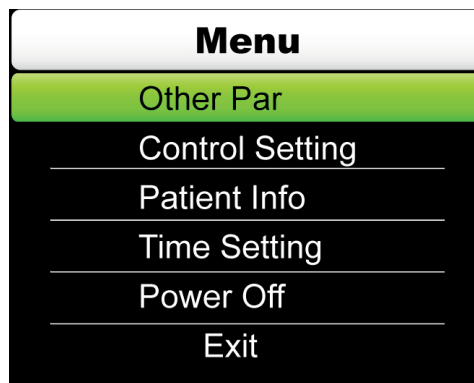
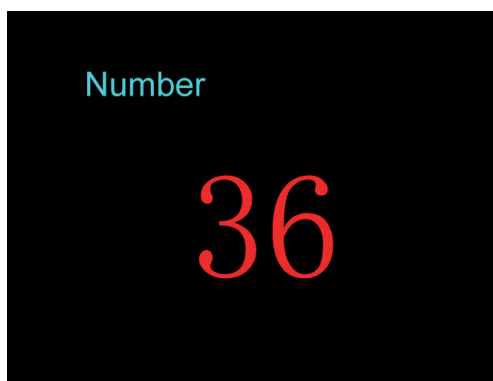
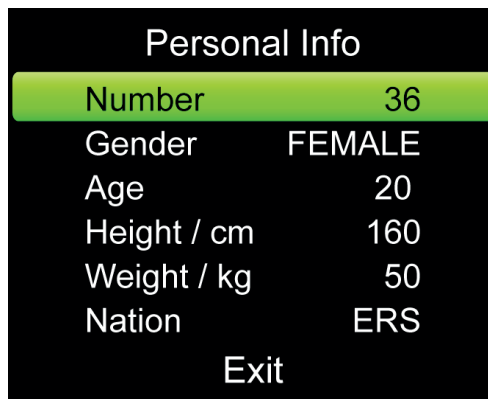

Fig.7
Fig.12
Fig.21
Flow rate-volume graph, volume-time graph: press "up", "down" key, two graphs will appear: Flow rate-volume and volume-time (as Fig.5-6). The three interfaces above are the main interface. In its interface press "menu" for main menu as Fig.7.
By browsing "menu" in its main menu as Fig.7, the user can search for other parameters and can operate control settings, patient information, real time configuration, shutdown, etc. The detail of methodology is as follows:
Select "Review Number" in its submenu. If the previous display status is "CLOSED" press the confirmation key to open the function (note: the review function can only be opened when the number of cases is more than one), the interface will jump to the Number interface as shown in Fig.12. In this interface use the "up" or "down" key to select the case number, press the confirmation key to review the selected case information. If the previous display is "OPEN" press the confirmation key to jump to the previous status (meaning: If the measurement has been completed before review, close this function, display "CLOSED" status, or jump to the measurement interface as shown in Fig.2).
**Attention:** When opening the review function, you can search all the measured data, the way is: Enter the main menu as Fig.7, select "Patient Info", press the confirmation key in its submenu as Fig.21, select "Number", press the confirmation key to go to the case number interface as Fig.12 (the function can only be selected in case of opening the review function), then use the "up" or "down" key to select the case number, press the confirmation key to search the corresponding information. If you want to search for other cases, repeat the above steps (If the case data is wrong, "Error!" will be displayed after pressing the confirmation key).
Press "Patient Info" in its submenu as Fig.21 (Note: Fig.2 is the selection interface, and "Yes" indicates that you can edit the patient information).
Press and hold the “repeat measurement” button for no more than 3 seconds to start another test, the information as in Fig. 12 will appear when the memory is full.